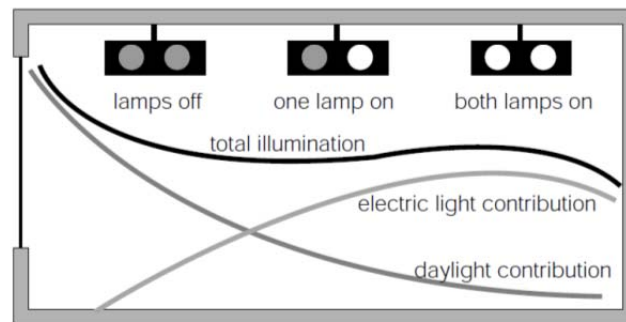

Figure 32: Schematic representation of lighting in a room with stepped lighting controls.
- **Any circulation space running along a window wall should be a separate control zone.** If this area is well-daylit, its lighting can often be switched off. The curves in Figure 32 show relative light levels from both